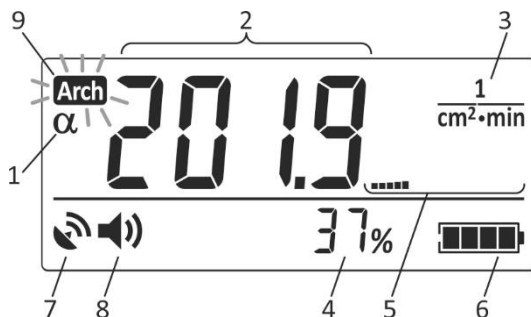

Figure 2.23 – LCD of the dosimeter
2.3.6.7.2.3 The LCD of the dosimeter displays the following in this mode (Figure 2.23):
- “ $\alpha$ ” symbol (1) – radiation type being measured;
- measurement result (2);
- dimension of measurement result (3);
- estimated limits of expected relative statistical deviations (5) of the measurement result (4) given 0.95 confidence probability, hereinafter referred to as the estimated limits of statistical deviations;
- instantaneous value indicator (5).
- battery status symbol (6);
- navigation receiver status symbol (7);
- symbol of gamma quanta, alpha or beta particles sounding status (8);
- sign (10) of critical filling of the dosimeter’s nonvolatile memory, where DE accumulation history is stored (2.3.4 of this OM).